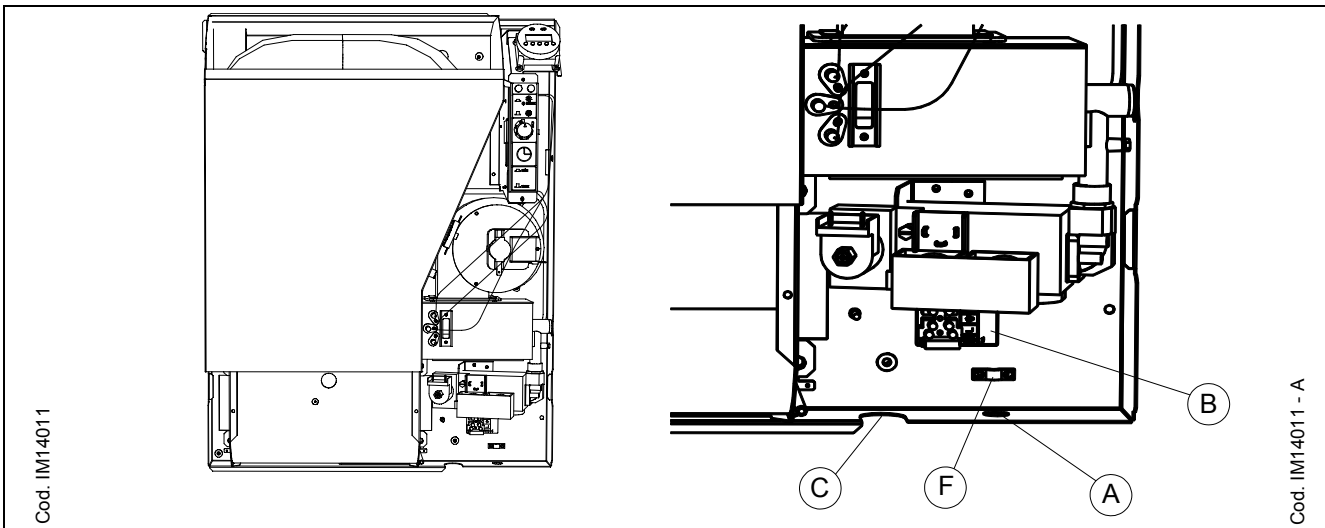
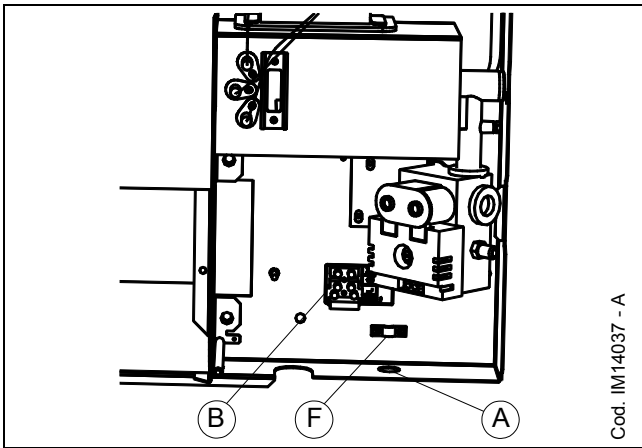
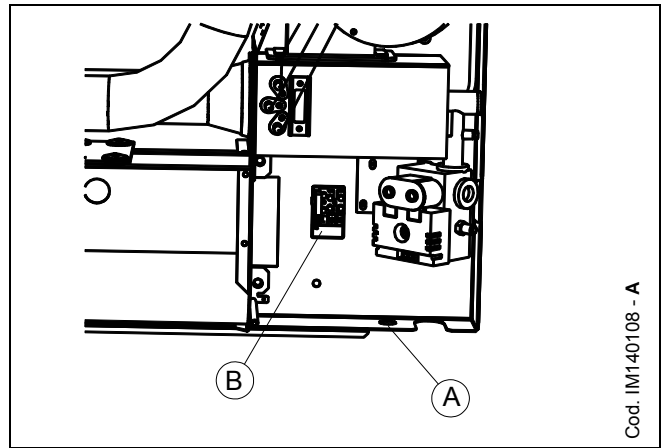
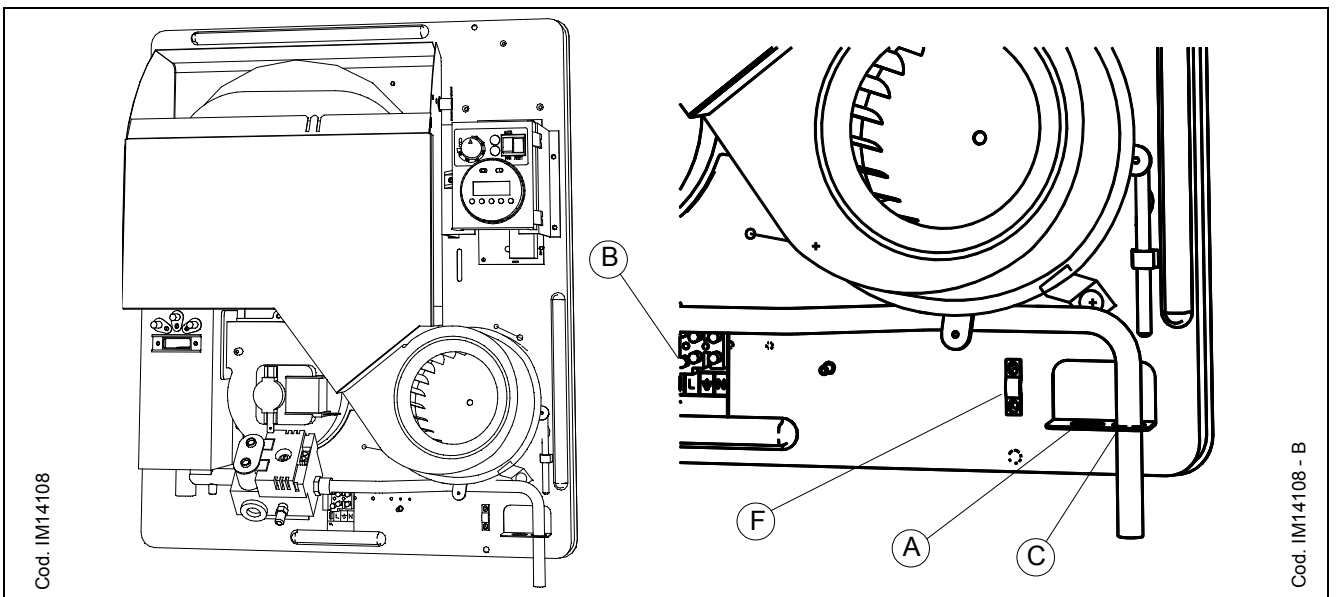

Figure 19 - SUPPLY LOCATIONS 5002 AND 8002 MODELS
Figure 21- SUPPLY LOCATIONS 4001, 4002 AND 5001 MODELS
Figure 22 - SUPPLY LOCATIONS 8001 MODEL
Figure 23 - SUPPLY LOCATIONS FOR 3001 AND 3002 MODELS
14. Arrange for unit connection to the electric supply system. Use a three-pole cable with fused 3 amp plug and make it go through the cable seat located in hole A and, for 3001, 3002, 4001, 4002, 5001 and 5002 models, also through the existing jumper F (see Figure 19, Figure 21 or Figure 23). Alternatively, an omnipolar switch with a minimum opening of contacts of 3 mm to be placed between the unit and the gas supply network can be used. An omnipolar isolating switch is a switch allowing both phase and neutral opening. This means that when it opens both contacts are opened. The cable must be HO5 VVF 3x1 mm² type, with a maximum external diameter of 8,4 mm and it must be connected to the terminal board B (see Figure 19, Figure 21, Figure 22 or Figure 23). Mind the polarity on the terminal board (L=phase, N=neutral, \perp =earth).
16. For Models 5002 and 8002 connection to the gas valve the pipe has to go through hole (C)see Figure 19. For Models 4001, 4002, 5001 and 8001 the pipe has to go through hole in the bottom right side of shell.
17. Model 3001 and 3002 are already equipped with a suitable pipe connection. For connection to the gas valve the pipe has to go through hole (C). See Figure 23.